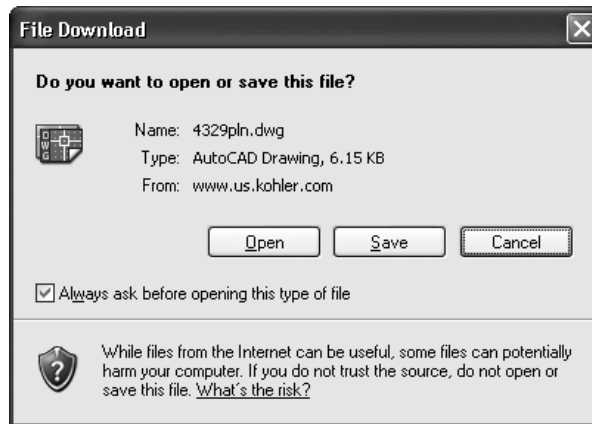

Figure 3-1.4a Saving a file from the internet
7. Click **Save** in the *File Download* dialog box (see Figure 3-1.4a).